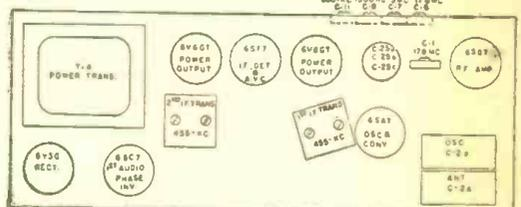

Fig. 4
The location of trimmers is shown in Fig. 4. All oscillator and R.F. trimmers are accessible from the rear of the cabinet.
8. Detailed diagrams and schematics. Fig. 1 is detail of cabinet corner; Fig. 2 is cabinet from rear; Fig. 3 is battery holding-strip; Fig. 4 is cabinet from front; Fig. 5 is drilling pattern of receiver front-panel; Figs. 6 and 7 show details of loop frame; Fig. 8 is drilling pattern of transmitter front-panel; Fig. 9 is pattern of receiver chassis strip; Fig. 10 is inside of transmitter; Fig. 11 is transmitter chassis strip; Fig. 12 is detail of carrying handle; Receiver schematic and transmitter schematic.